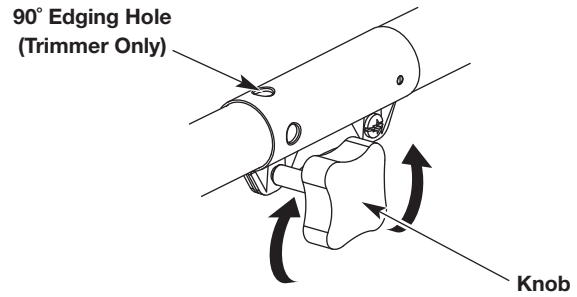
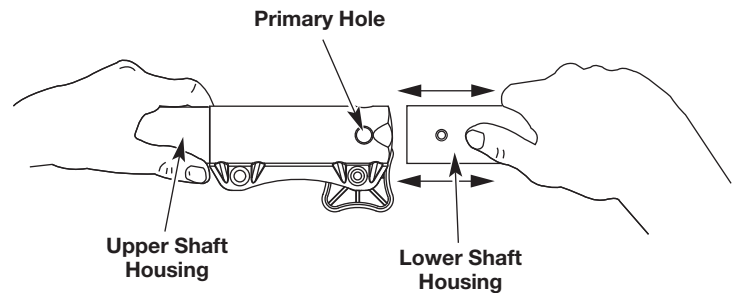

Fig. 3
Fig. 5
1. Turn the knob counterclockwise to loosen (Fig. 3).
2. While firmly holding the attachment, push it straight into the coupler until the release button snaps firmly into the primary hole (Fig. 5).
3. Turn the knob clockwise to tighten (Fig. 3).
CAUTION: Before operating this unit, be sure that the release button is fully snapped into the primary hole (Fig. 5), and that the knob (Fig. 3) is securely tightened.
For decorative edging with the line head trimmer attachment, lock the release button of the attachment into the 90° hole (Fig. 3).
3. While firmly holding the upper shaft housing, pull the attachment straight out of the coupler (Fig. 5).